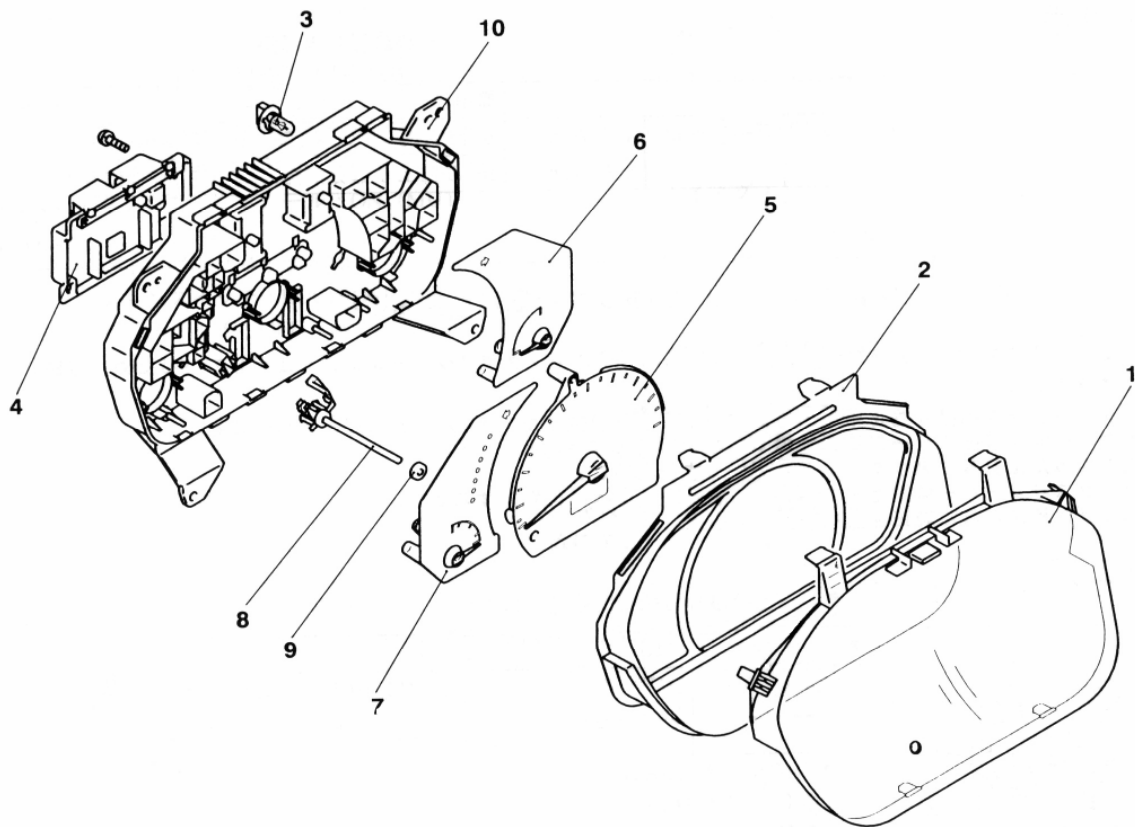

Fig 20-71
1) Disassembly step as Fig 20-71